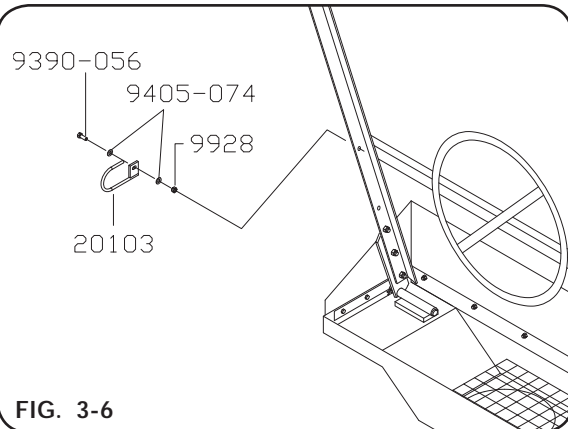

FIG. 3-6
6. Install the hose holder (20103) to the door angle opposite of the transport/latch assembly using one 3/8-16UNC x 1 1/4 capscrew (9390-056), two 3/8" flat washers (9405-074) and one 3/8-16UNC locknut (9928) (Fig. 3-6).